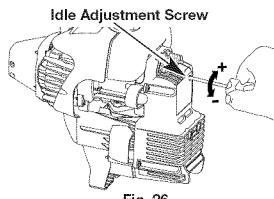

Fig. 26
The idle speed of the engine is adjustable. An idle adjustment screw is between the air filter cover and the engine starter housing (Fig. 26).
- Release the throttle trigger and let the engine idle. If the engine stops, insert a small phillips screwdriver into the idle adjustment screw (Fig. 26). Turn the idle speed screw **clockwise** 1/8 of a turn at a time (as needed) until the engine idles smoothly.